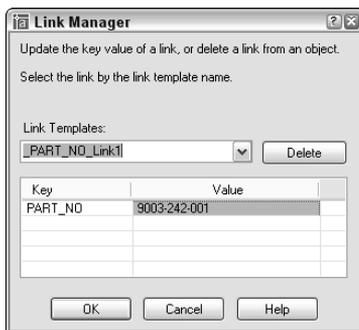

Figure 20-11: The Link Manager enables you to edit key value data for its linked object.
1. Choose dbConnect ⇨ Links ⇨ Link Manager to open the Link Manager, shown in Figure 20-11. You can also select a linked object, right-click in the drawing area, and choose Link ⇨ Link Manager.